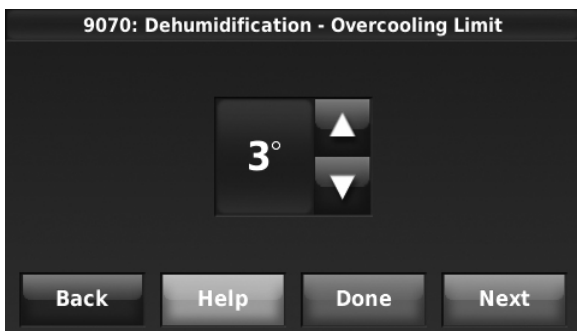

Fig. 221.
6. Set the Overcooling Limit. See Fig. 221. Options: